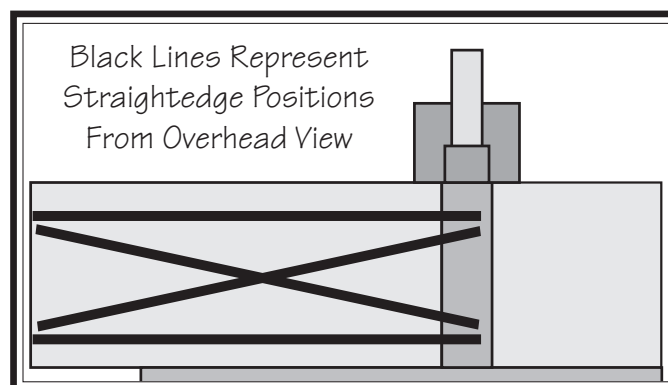

Figure 41. Straightedge positions for verifying if outfeed table is parallel with cutterhead.
6. Place straightedge in positions shown in **Figure 41**. In each position, straightedge should touch cutterhead body and sit flat on outfeed table.